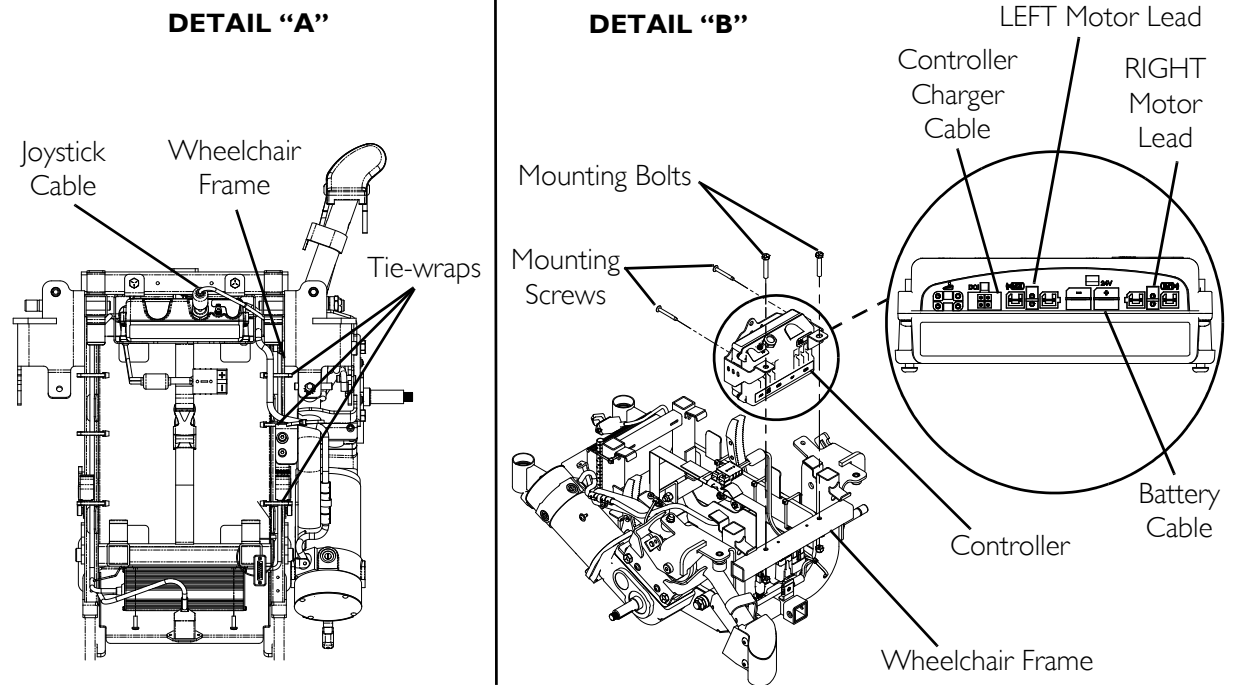

FIGURE 12.7 Replacing the NX-80, NK5-EX, MK5 or MK6i Controller
NOTE: For this procedure, refer to FIGURE 12.7 on page 123.
5. Remove the two mounting bolts securing the controller bracket to the wheelchair frame. (Detail “B” of FIGURE 12.7).
7. From inside the wheelchair frame, remove the two mounting screws secure the existing controller to the wheelchair frame (Detail “B” of FIGURE 12.7).